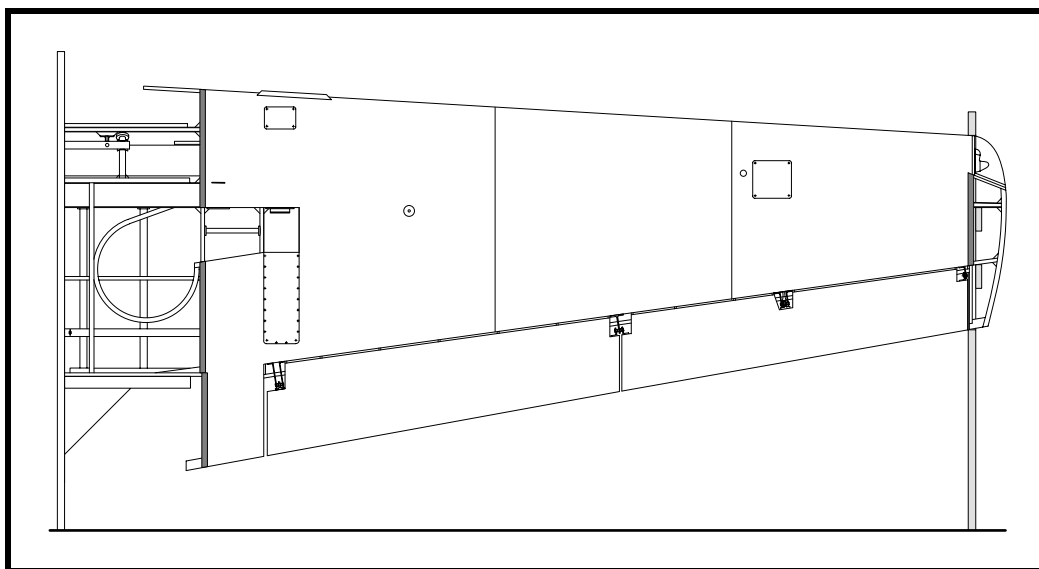

Figure 47
- ☐ Make and install the three access panels. See Figure 47.